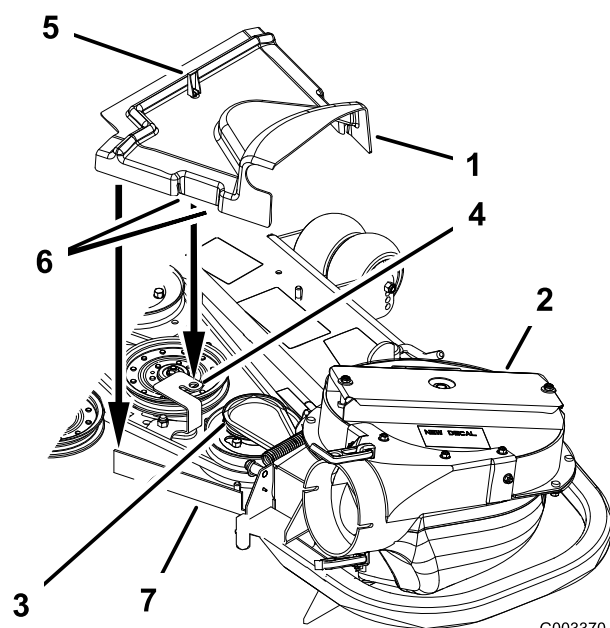

Figure 27
2. Install the new belt cover so the notches on both sides go over the belt cover supports and secure the latch (Figure 27).